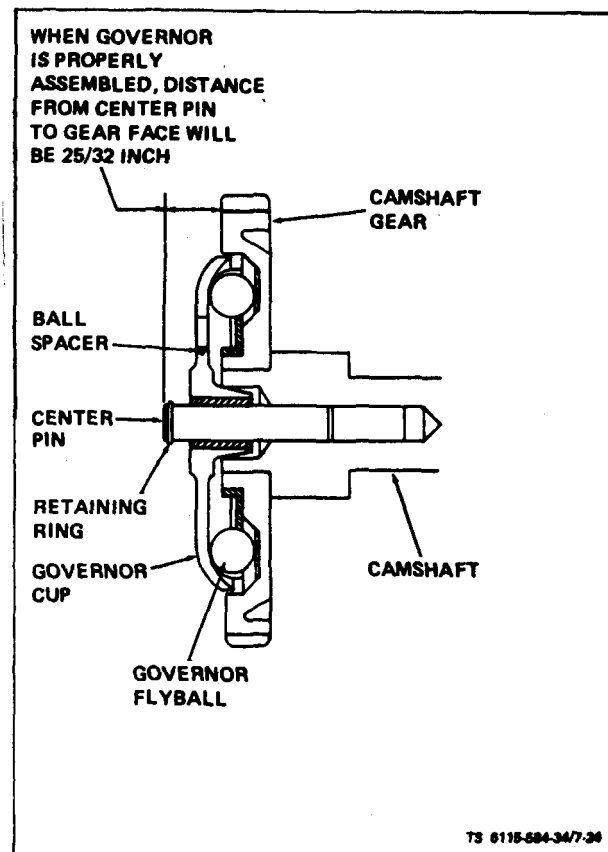

Figure 7-24. Governor Cup Assembly
a. Remove (see figure 7-24). On ASK equipped generator refer to Operation and Organizational Maintenance Manual and remove ASK cover assembly. Remove retaining ring from camshaft center pin and slide cup off. Be sure to catch the ten flyballs that will fall out when cup is removed.
b. Repair. Replace any flyballs that have flat spots or grooves. Replace CUP if race surface is grooved or rough. The governor cup must be a free spinning fit on camshaft center pin, but should be replaced if excessively loose or wobbly. Check distance the center pin extends from the camshaft gear, this distance must be 25/32 inch to give proper travel distance for the cup (see figure 7-24). If it is less, the engine may race; if more, the cup will not hold the balls properly. If distance is too great, drive or press center pin in. If it is too small, replace pin; it cannot be removed without damaging the surface. If aluminum ball spacer openings are badly worn, replace ball spacer. (Camshaft must be removed for this.)